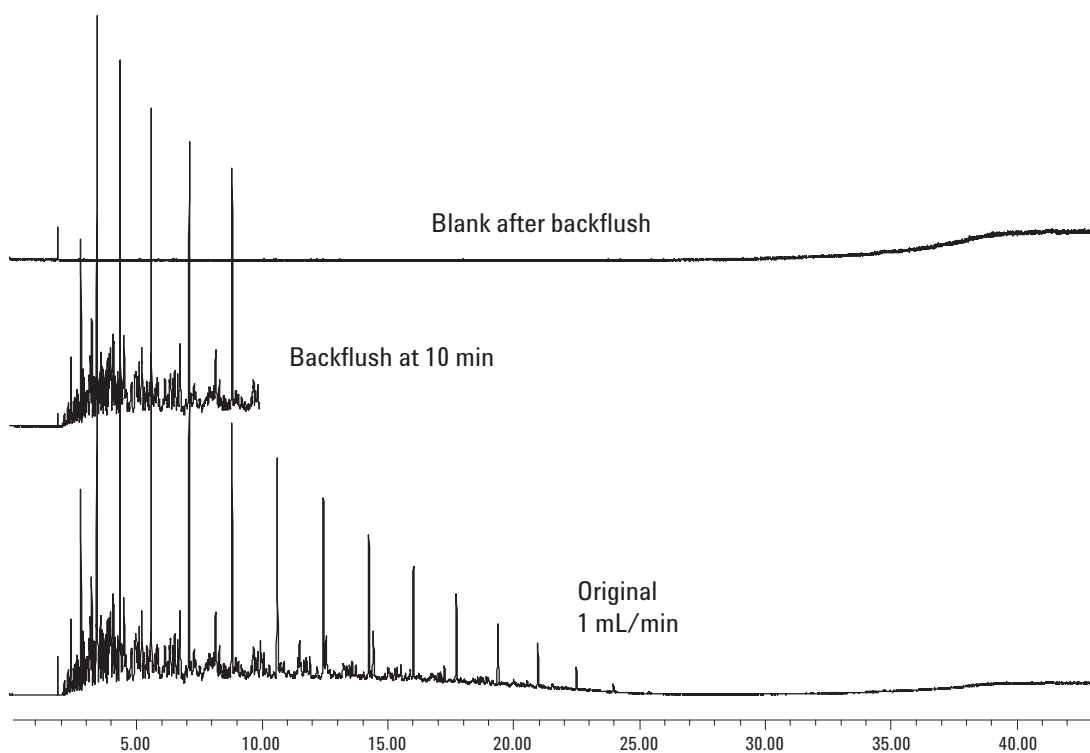
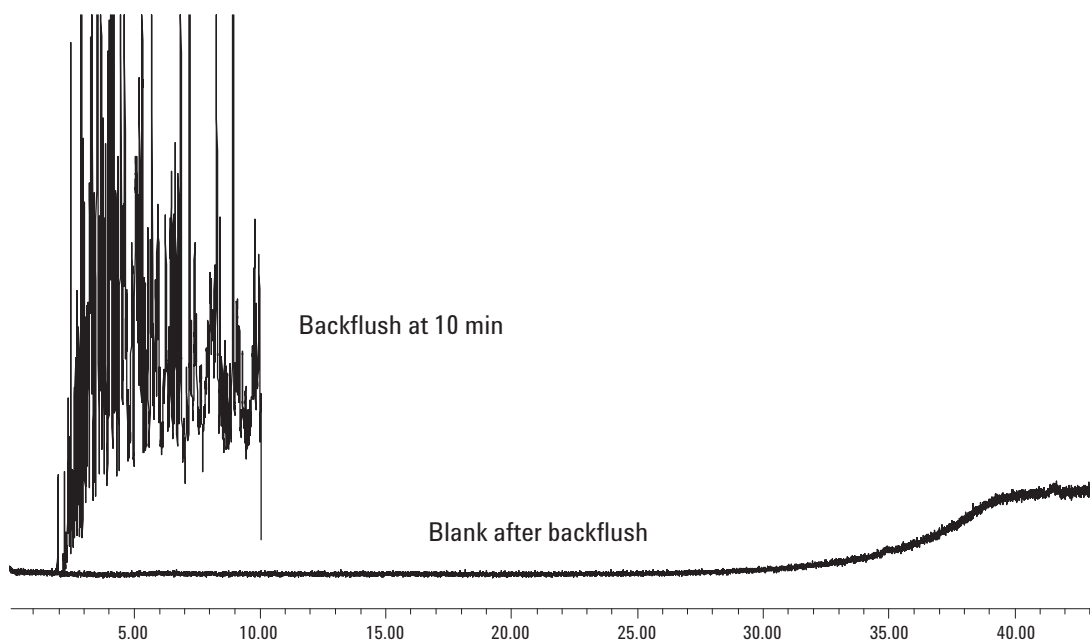

Figure 14. Backflush applied to diesel fuel sample NIST 2724b, analyzed under Constant Flow mode conditions.
Figure 15. Expanded plot of the diesel fuel example showing excellent clean baseline after backflush.
3.3 void times) was clearly sufficient to backflush all components remaining in the column at the conclusion of the 10 min run. This is confirmed in the following example of NIST 2724b diesel fuel. See Figure 14.
Figure 15 is an expanded plot of the diesel fuel example shown in Figure 14. Notice that the baseline on the subsequent blank run after backflush is very clean. This shows that in addition to cycle time improvements, backflushing is an excellent way of improving overall analysis quality by removing all potential ghost peaks emanating from prior sample analyses.